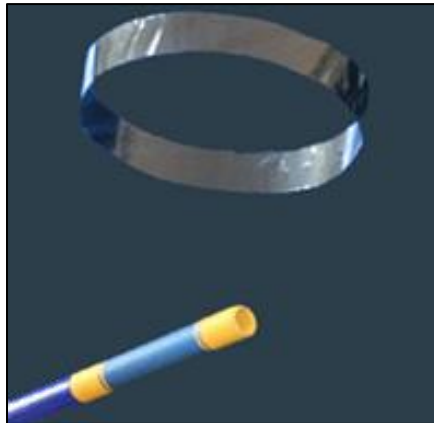

Fig. 8 Levitating circular charged conducting strip
1. Unfold the band-shaped conductive strip and hold it in one hand. Use the handheld VDG to generate charge. Release the strip and touch it with the handheld VDG. **Fig. 8** is an illustration of a successfully charged strip. What shape does the strip turn into? What does this have to do with static electricity?